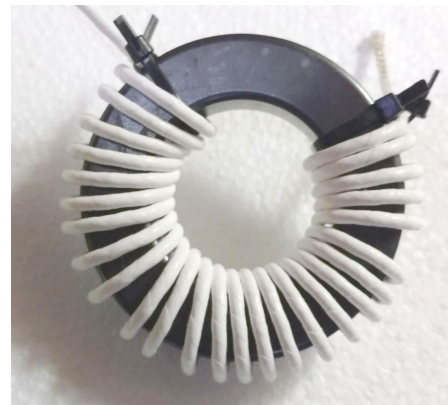

Fig 4 – RG179 Choke
**75  $\Omega$  Chokes For 4-Square Transmit Antennas** Two possible options are RG302 (0.203 in o.d., solid steel silver coated copper center) and RG179 (0.1-in. o.d., stranded silver coated copper center). RG302 is close enough in size to RG400 that recommendations for RG400 can be used. Grant, KZ1W, sent me some RG179, and I wound chokes on the same test 2.4-in o.d. toroids. (Fig 4) Recommendations are summarized in [k9yc.com/ChokesRG179.png](http://k9yc.com/ChokesRG179.png) and apply to any 0.1-in o.d. coax with FEP or PTFE outer jacket. Loss and dissipation calculations include two 4 in leads. This miniature coax is pretty lossy, so it can't handle a lot of power, but it probably can handle US legal limit power equally divided to each of the verticals *provided that the chokes are exposed to free air*. Cookbook guidelines are for closely spaced turns (touching on the inner diameter), and are summarized in Table 4.